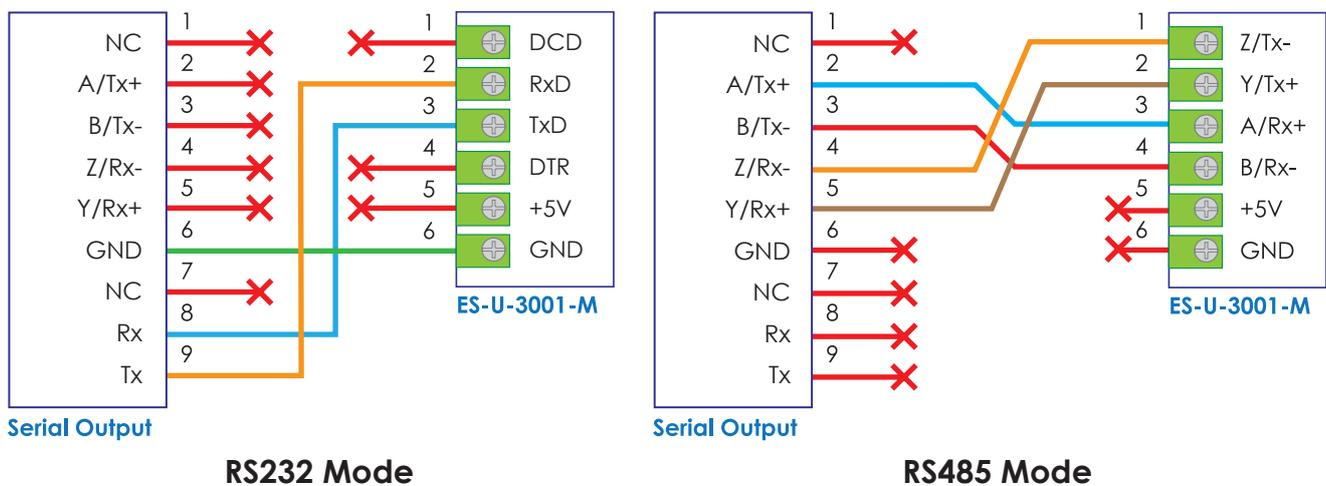

Figure 13. Connection of the control box in (a) USB mode (b) RS232 mode (c) RS485 mode
- The connection pinout of the RS232/485 serial output is illustrated in Figure 13. The connection pinout of RS232/485 Serial Output with ES-U-3001-M converter is illustrated in Figure 14(a).
- The connection pinout of the RS232/485 serial output is illustrated in Figure 13. The connection pinout of RS232/485 Serial Output with ES-U-3001-M converter is illustrated in Figure 14(b).